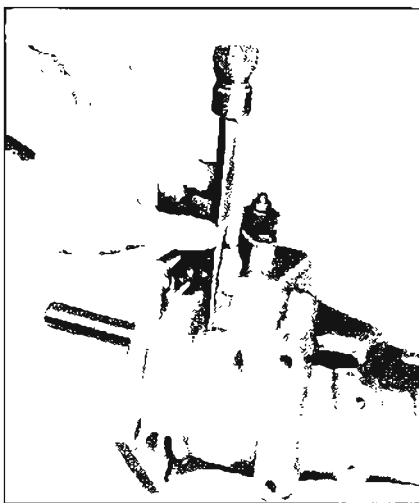

Figure 4-53—Removing Reverse Idler Shaft Lock Pin
1. With case extension removed from the transmission, drive the reverse idler shaft lock pin into the boss until it falls into the clearance hole in the shaft. See Figure 4-53.